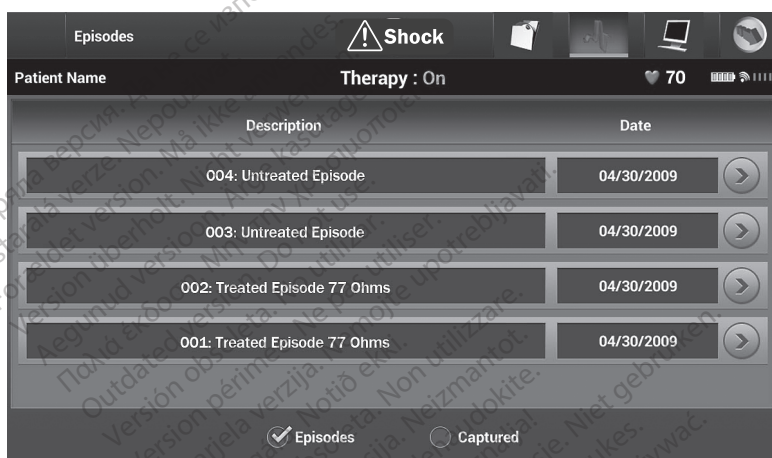

Figure 26. Episodes screen (scrollable list)
- NOTE:** Choosing the "View" button in the Episodes row allows navigation directly to the list of stored episodes (Figure 26 Episodes screen (scrollable list) on page 39).
4. Select the Episodes option to access the Episodes screen (Figure 26 Episodes screen (scrollable list) on page 39).
NOTE: In order to be available for printing, episodes must have been individually selected and viewed from the Episodes Screen (Figure 26 Episodes screen (scrollable list) on page 39).